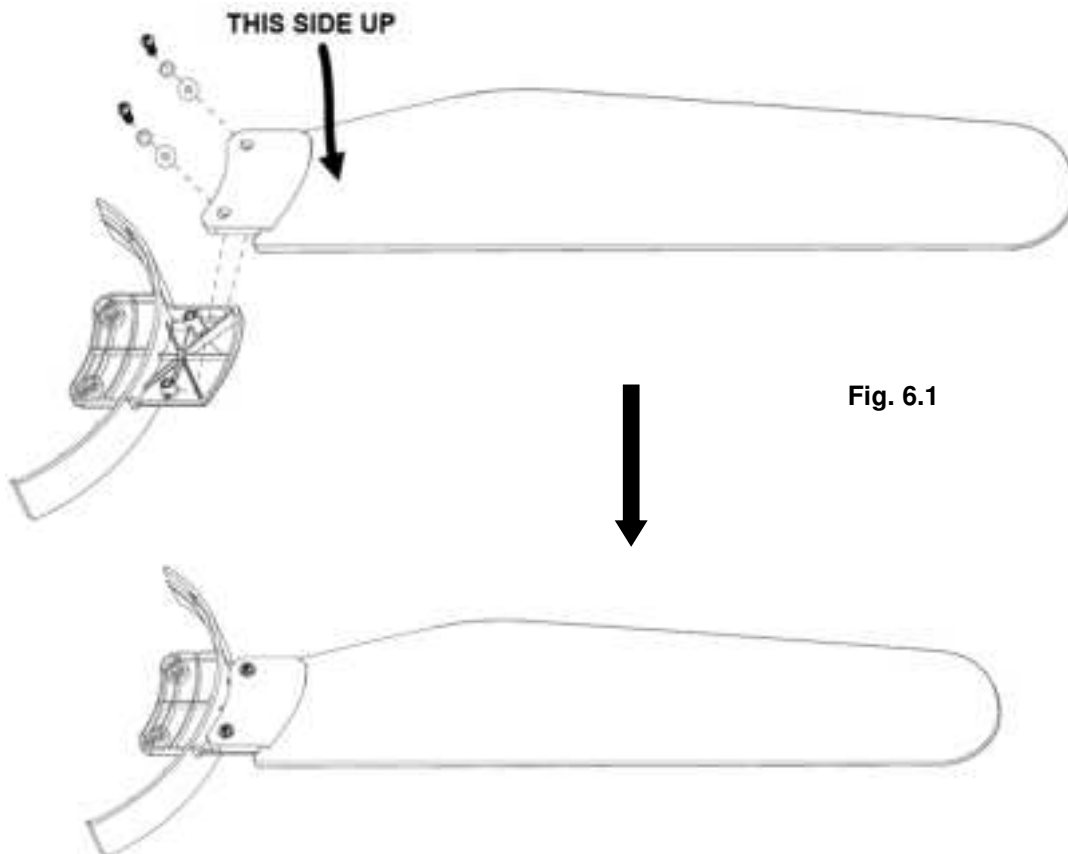

Fig. 6.1
1. Assemble the fan blades to the fan blade bracket by tightening the 2 blade screws and lock washers & flat washers. Take note the correct side of the blades with the marking “THIS SIDE UP” is on the screw head side. (Fig. 6.1).